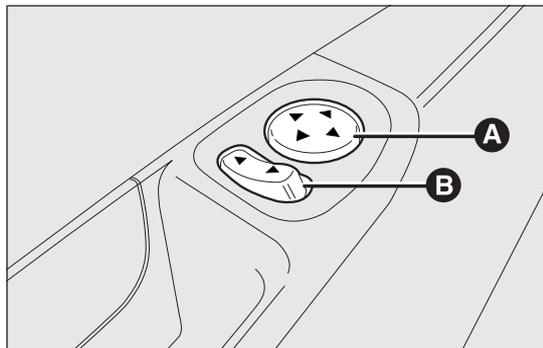

fig. 24
- select the mirror using selector B fig. 24;
- adjust the mirror using the four-way button A fig. 24 in the four directions.